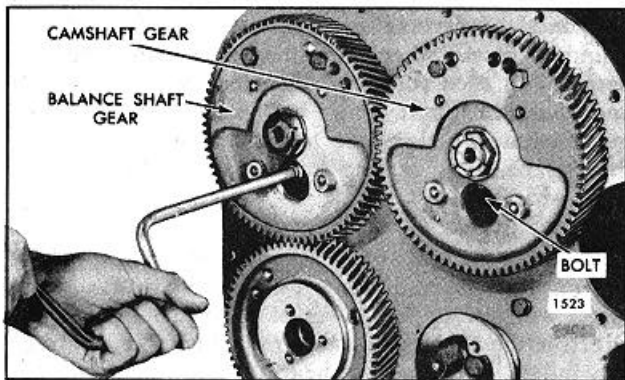

Fig. 5. Removing or Installing Shaft Bearing Retainer Bolts
12. Rotate the gears as required to reveal the end bearing retaining bolts. Remove the bolts as shown in Fig. 5.